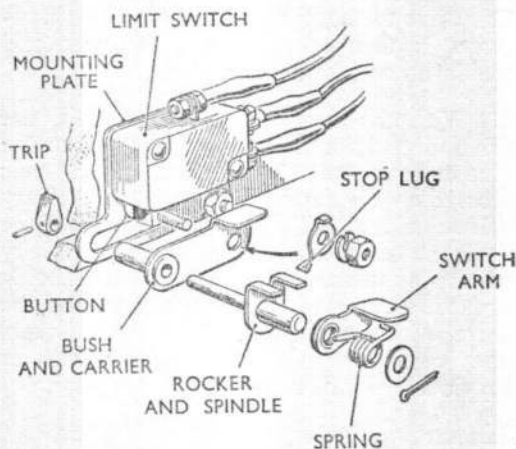

Fig. 4. Limit switch assembly
13. Each switch assembly (fig. 4) consists of a limit switch, riveted to a mounting plate, and the switch operating mechanism. The trip arm, which is pinned to the inner end of the rocker spindle, is contacted by the lower torque reaction ear on the plunger. Movement of the rocker spindle causes the rocker, which is integral with the spindle, to load the spring.